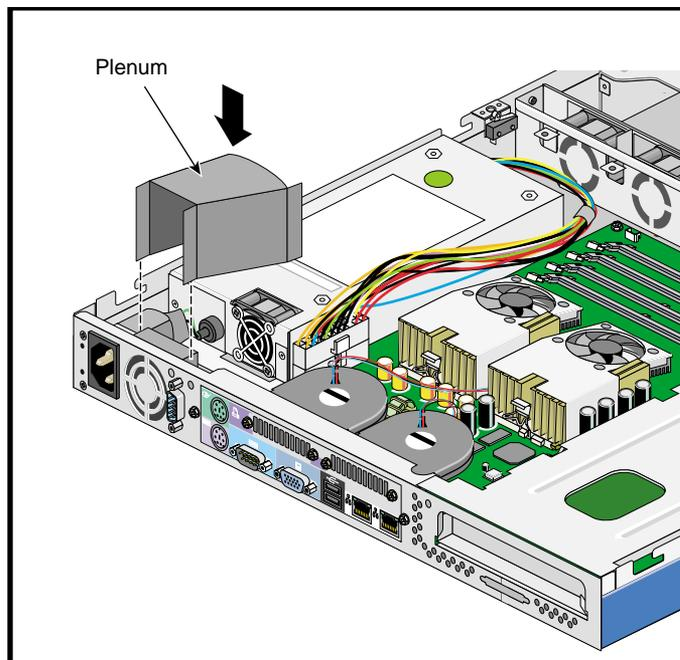

Figure 2-46 Installing the Plastic Plenum
- Align the narrow part of the plastic plenum with the air vent on the power supply socket module, using the adhesive sides of the plenum to stick it into position, as shown in Figure 2-46.